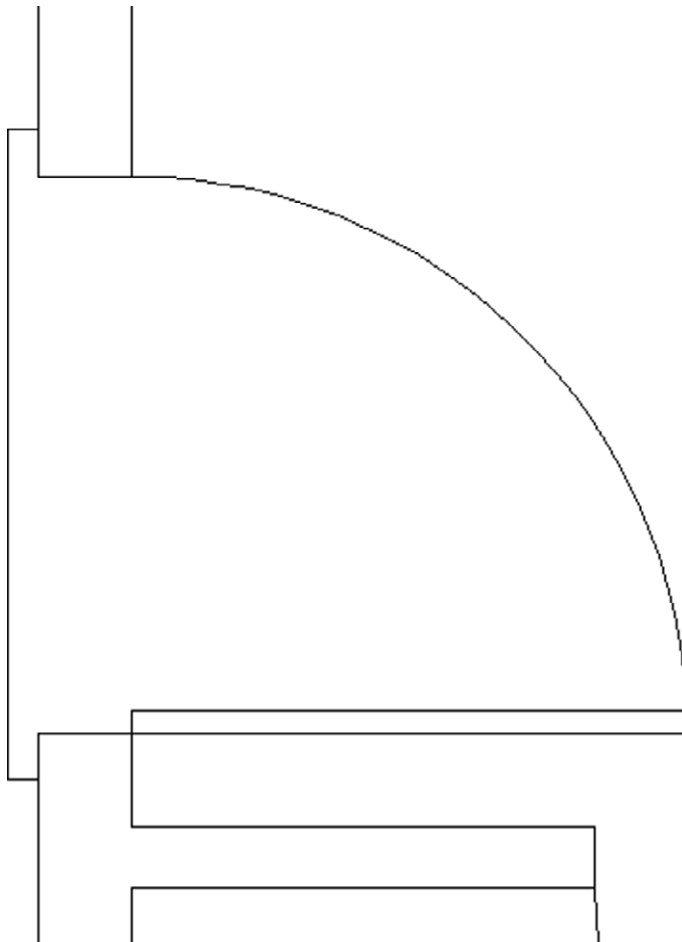

FIGURE 5.10: The completed back threshold
8. Press ↵ to end the LINE command. The back threshold should look like Figure 5.10.